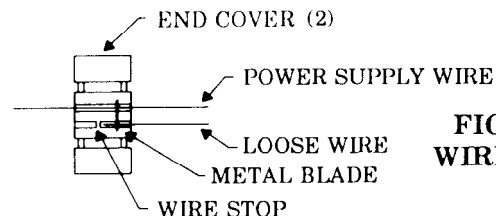

FIGURE 3A
**NOTE:** An enclosed wire splice (Figure 3A) allows you to make an electrical connection without cutting or stripping wires. It may be needed to attach a loose red wire to another location on your new wire harness. Look for this splice; if it is already attached to two red wires on your harness, skip step 5B.
5B. Place the loose red wire from the wire harness into the splice channel that has a plastic wire stop (Figure 3A). The wire should cross the metal blade so that when you close the end cover, the blade will penetrate the wire's insulation. Place either of the red wires that are attached to the top board power supply connector into the splice channel without the wire stop. (These are +5V lines). Again, make sure that the splice's metal blade will penetrate the wire's insulation. Close the splice end cover's, using a pliers if necessary, to snap them into place.